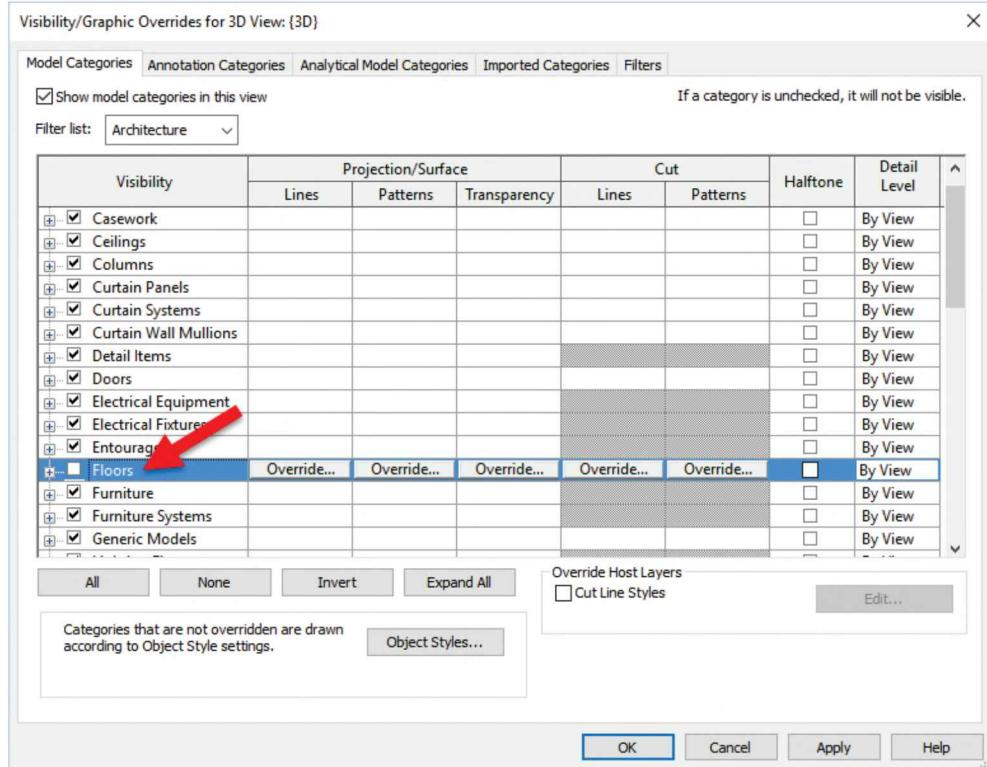

FIGURE 17-5.8 VISIBILITY control in the project
23. Uncheck *Furniture* on the *Model Categories* tab (Figure 17-5.8).